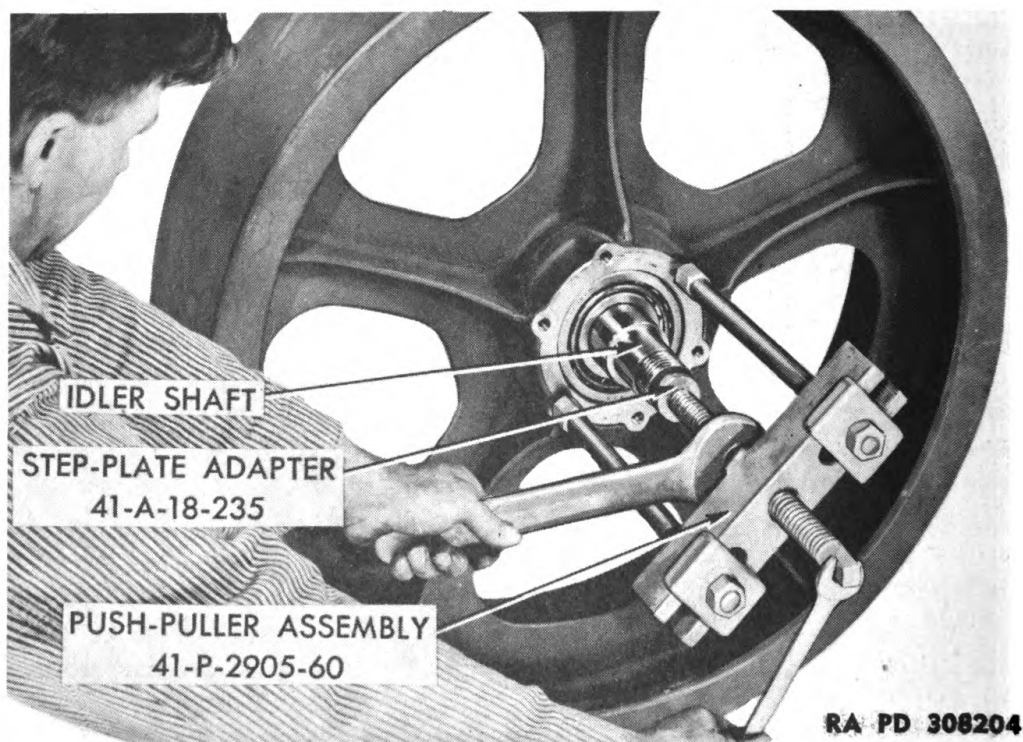
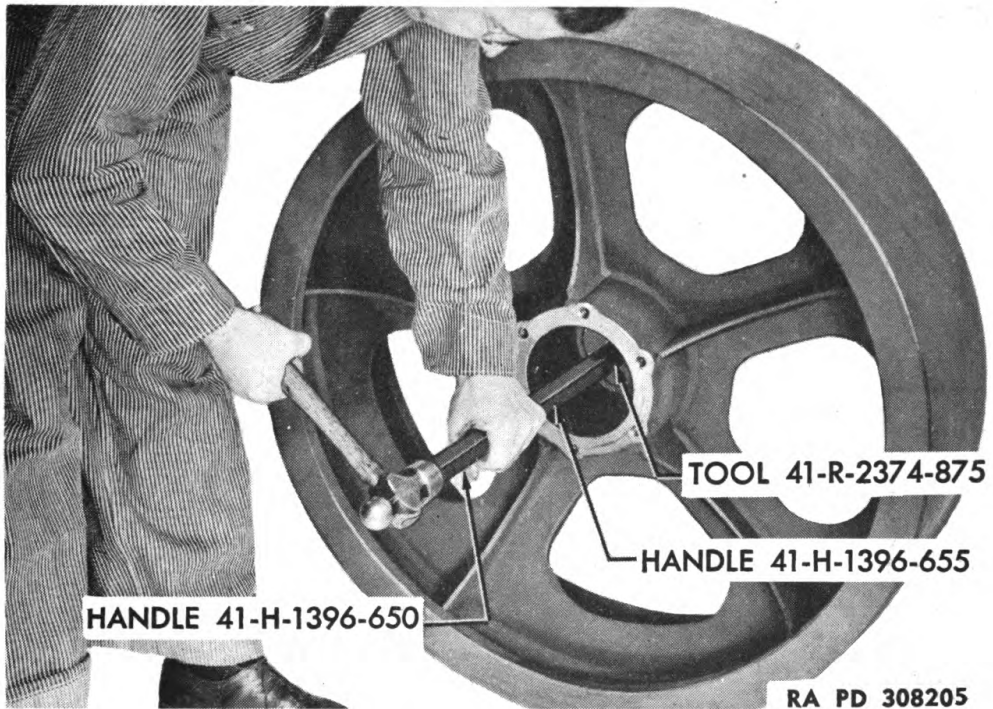
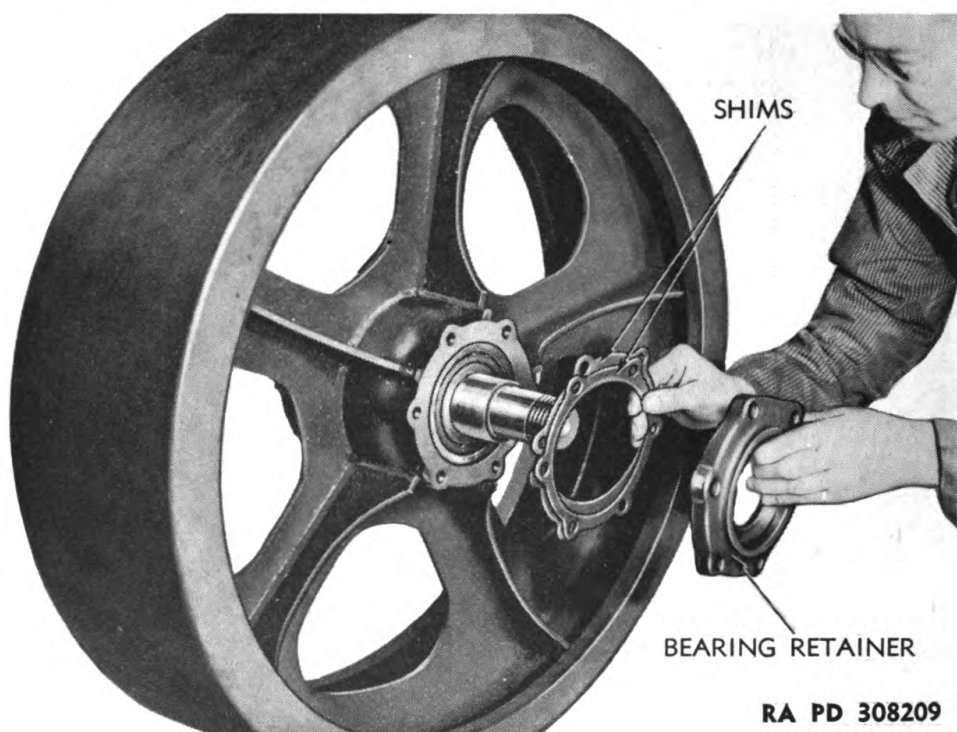

Figure 102 — Pushing Shaft and Bearings From Idler Wheel
Figure 103 — Removing Second Idler Shaft Bearing Cup
Figure 107 — Installing Bearing Retainers and Shims
b. Remove Idler Shaft and Bearings. Cut and remove lock wires from heads of retainer cap screws and remove the six cap screws from each retainer. Remove the retainers and shims back of retainers (fig. 107). Tap seal plates out of retainers with small punch and hammer. Tie shims to the retainer with which they were removed. Install adapters (41-A-18-235) in two of the tapped holes in hub of wheel, assemble puller in same manner as for removing guide bushings from shaft (fig. 102), and push shaft and bearings out of wheel. One bearing cup will remain in wheel. Use remover (41-R-2374-875) with two handles (41-H-1396-655) and handle (41-H-1396-650) to remove this bearing cup (fig. 103). Press bearing cone and roller assemblies off shaft.
c. Install Bearing Retainers and Shims. Measure the total thickness of the shims that were removed with retainers if same shims are to be installed. Add shims to one side, if necessary, to make the total thickness of shims to be installed on each side equal or, if new shims are to be used, install retainers at ends of hub with shims totaling 0.060 inch under each retainer (fig. 107). Tighten cap screws in